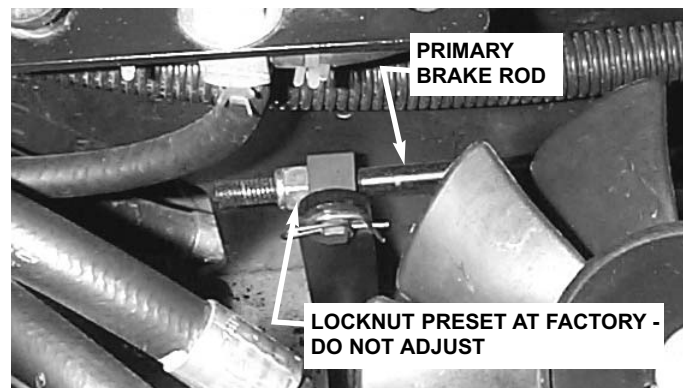

FIGURE 5.9
**IMPORTANT** - Do not adjust primary brake rod. Adjustment has been preset at the factory. See Figure 5.9.